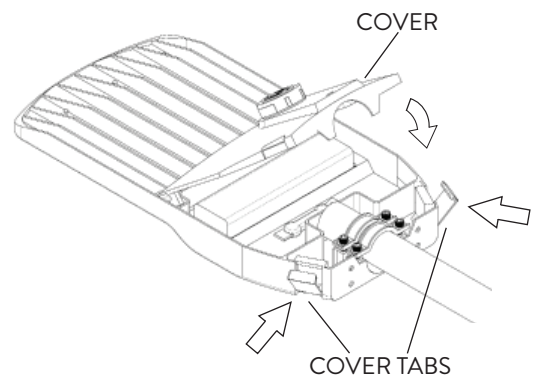

FIG. 8
- 4 With the Pipe Arm in place close the Cover by closing the Tabs onto the Cover of the FSTA/2 fixture (Fig. 8).